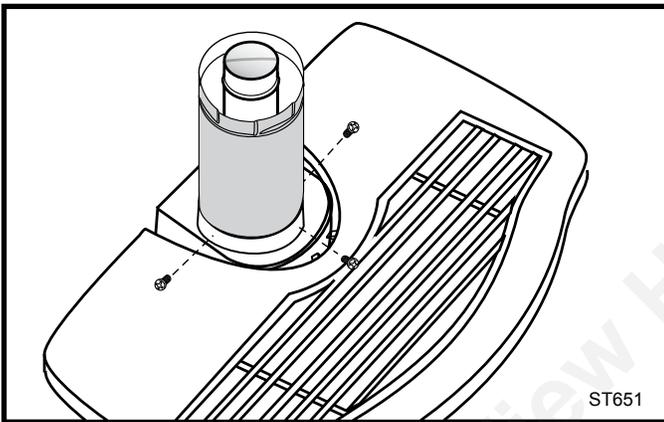

Fig. 23 DuraVent - install outer adapter pipe.
- Orient the vertical seam to the rear, and insert the crimped end of the outer pipe into the flue collar. Fasten with three sheet metal screws provided. (Fig. 23)